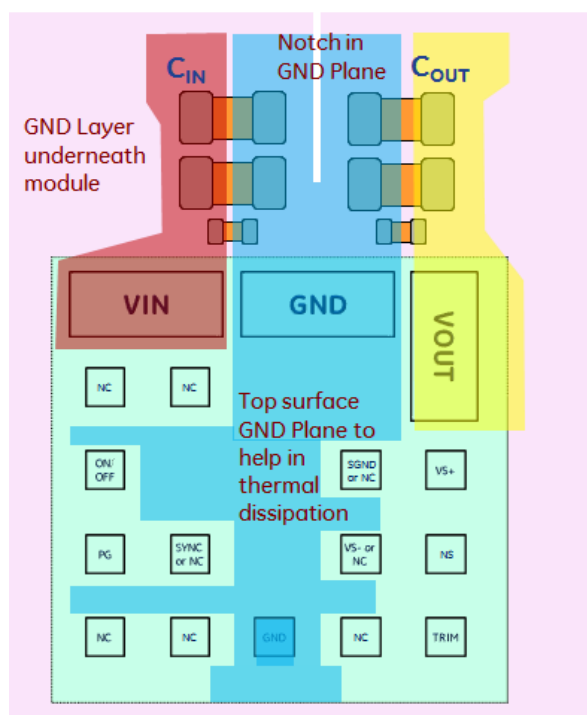

**Figure 7. Typical Application Circuit of the IND072 regulator.**
- **Minimize loop area** - To provide the most effective filtering and avoid noise coupling from a regulator to other parts of the circuit, it is recommended that the loop area for both power and signal traces to the regulator be minimized. To minimize input noise, it is necessary to reduce the parasitic inductance of the input loop significantly, by reducing the loop area. Using a high frequency, low ESR and ESL bypass capacitor, close to the regulator module input pins reduces the area of this loop significantly. Figure7 shows a typical application circuit incorporating these recommendations. For reducing high frequency switching noise at the input and output of the module, 0.047 $\mu$ F (0402), 0.1 $\mu$ F (0402), etc. small package ceramic capacitors (C11 and C01 in schematic) should be placed at the input and output of the module. Capacitors used for minimizing the ripple component (C12, C13, C02 & C03) are termed as bulk capacitors with capacitance needed being in the order of tens or hundreds of  $\mu$ F.